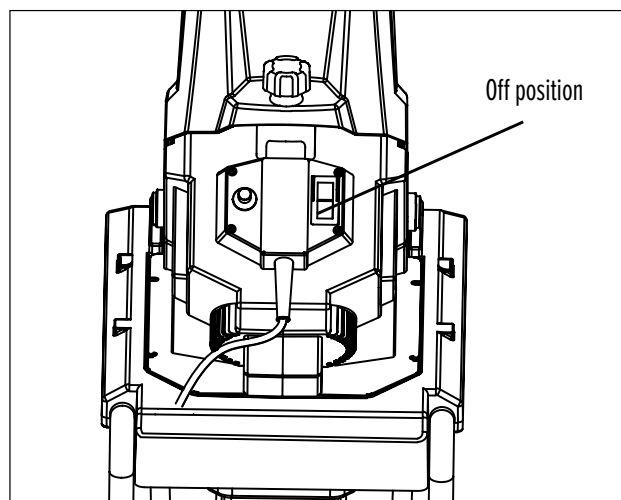

FIG. 6
- 3 To switch off, simply press the ON/OFF switch to the OFF position (FIG. 6).